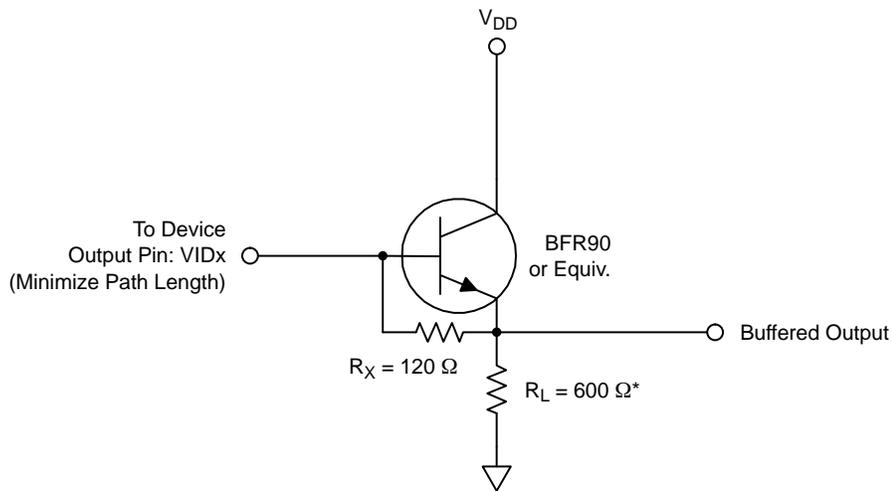

Figure 23. Typical Output Bias/Buffer Circuit
1. A current sink must be supplied for each output. Load capacitance should be minimized so as not to limit bandwidth. The values of R_X and R_L should be chosen to optimize for a given operating frequency, but. R_X should not be less than 75 Ω . The values shown in Figure 23 below represent one possible solution.